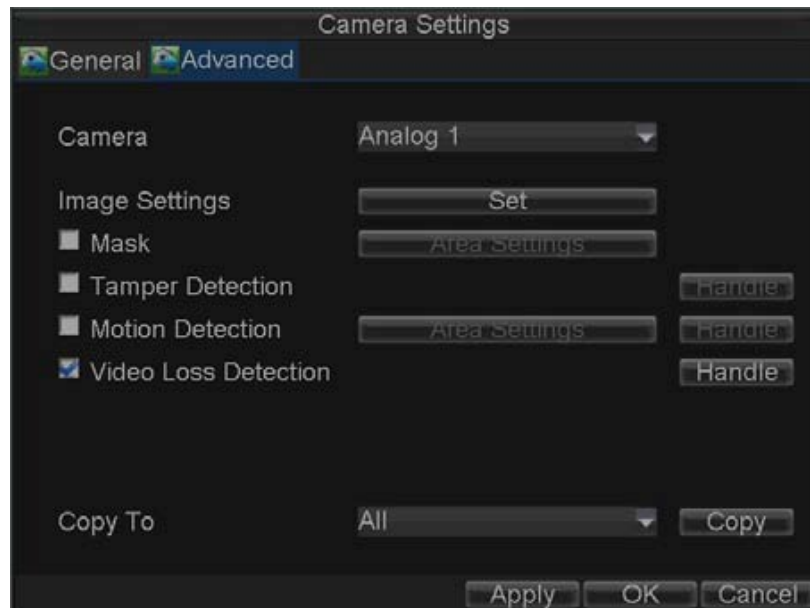

Figure 9.15. Camera Settings Menu
- 4) Check the **Video Loss Detection** checkbox to enable this feature, as shown in Figure 9.15.